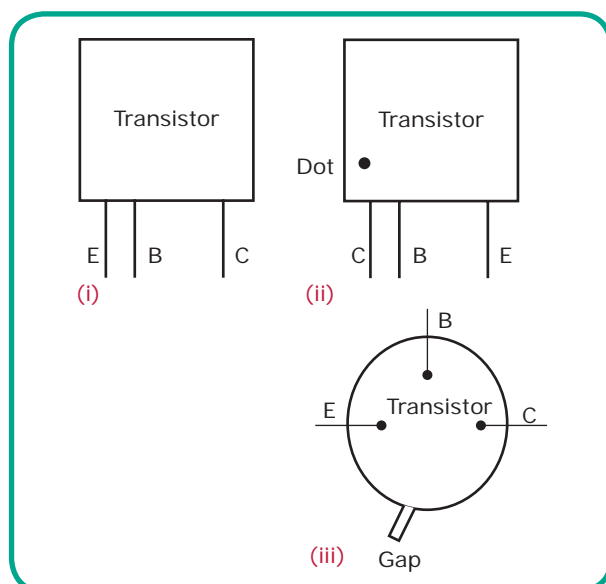

Figure 5.3 Transistor lead identification
There are three leads in a transistor viz. collector, emitter and base. When a transistor is to be connected in a circuit, it is necessary to know which terminal is which. The identification of the leads of transistor varies with manufacture. However, there are three systems in general use as shown in the figure 5.3.
figure 5.3 (i)], they are identified by the position and spacing of leads. The centre lead is the base lead. The collector lead is identified by the large spacing existing between it and the base lead. The remaining lead is the emitter.
- ii) When the leads of a transistor are in the same plane but evenly spaced [see figure 5.3 (ii)], the centre lead is the base, the lead identified by dot is the collector and the remaining lead is emitter.
- iii) When the leads of a transistor are spaced around the circumference of a circle [see figure 5.3 (iii)], the three leads are generally in emitter, base, collector order clockwise from a gap.